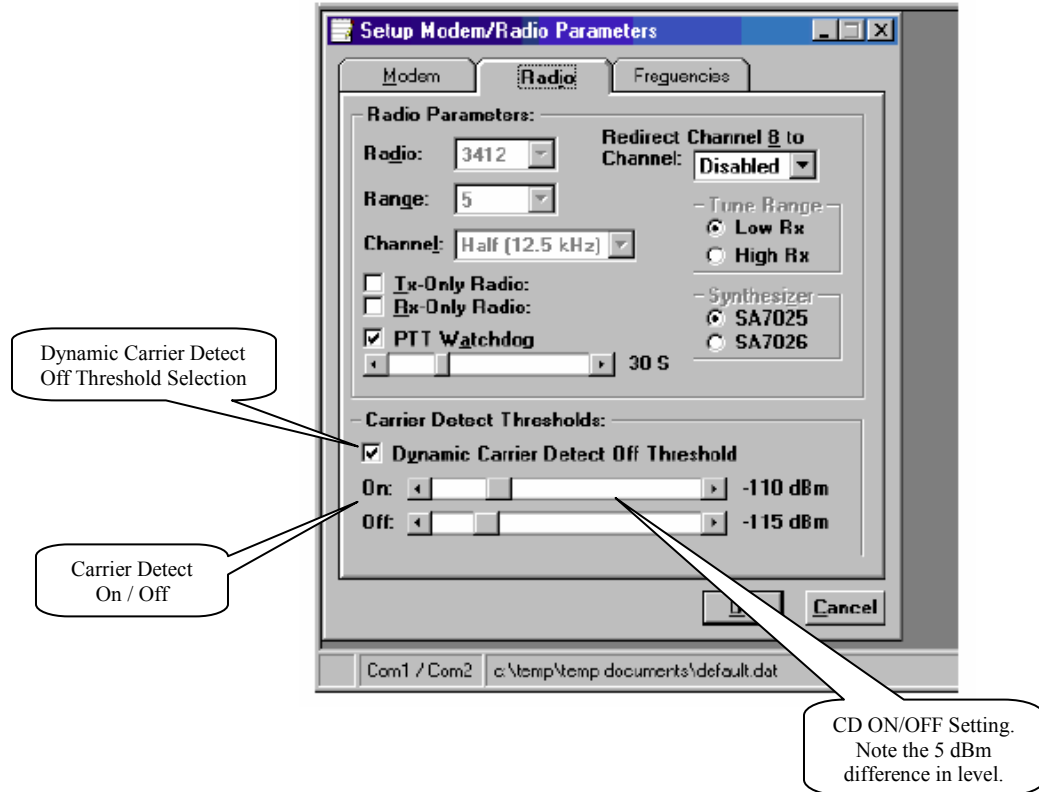

Fig. 1
One of the settings used in programming a T-96SR is the Carrier Detect (CD) ‘ON’ and ‘OFF’ level. See Fig.1 on next page. CD ‘ON’ is the RF signal required to open the receiver squelch, allowing detected audio to enter the T-96SR modem for data detection. The CD ‘OFF’ is the level to which the RF signal must decrease to allow the squelch circuit to close, shutting off the detected audio to the T-96SR modem.
Settings for the ‘ON’ and ‘OFF’ level are described in Paragraph 2.5.4.4 on Page 2-17 of the T-96SR Technical Manual part number 001-4006-101. See Fig. 1 on next page. Dataradio recommends a 5 dBm difference between CD ‘ON’ and CD ‘OFF’.